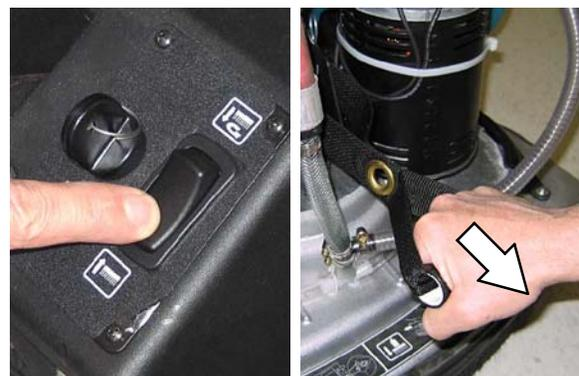

FIG. 9
1. For Disk Model: Turn key on and raise the scrub head to up position. Reinstall pads or brushes with key off. Pull the scrub head handle strap to set the scrub head in heavy down pressure (Fig. 9).